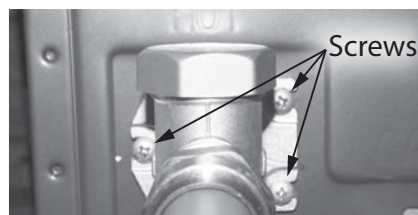

Figure 231 - Outlet assembly screw location
**21** Locate the three (3) screws securing the outlet assembly to the base of the water heater. Use a Phillips screwdriver to remove the screws. Place screws aside in a safe place for reinstallation. See Figure 231.